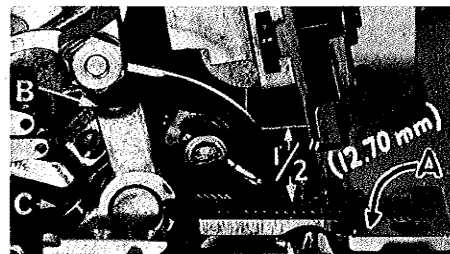

Fig. 4
With throat plate assembled in position, needle should center in the front end of needle slot. When needle is at high position, needle point should be set $\frac{1}{2}$ inch (12.70 mm) above throat plate (A, Fig. 4) for Styles 39500 QS, QT, RT, TM & TT; $\frac{15}{32}$ inch (11.91 mm) for Styles 39500 RD, RL and TJ. For Style 39500 TK the setting should be $\frac{31}{64}$ inch (12.30 mm). To align needle or set the height above the throat plate, move needle driving arm (B, Fig. 4) by loosening clamp screw (C). After needle has been set properly, tighten clamp screw and remove throat plate.